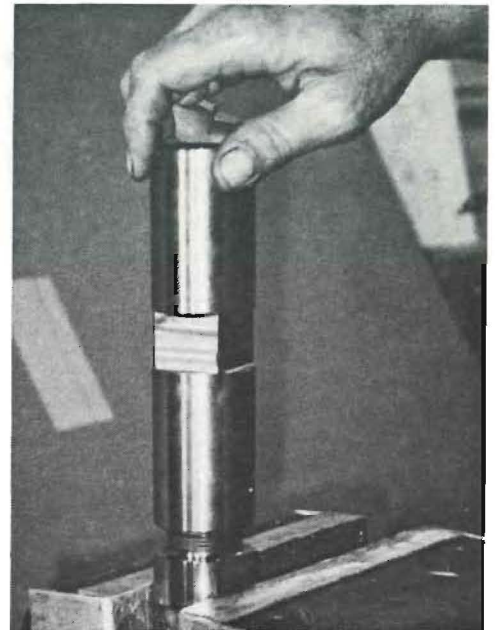

FIGURE 1
- D. REMOVE THE BODY (ITEM 1) AS SHOWN IN FIGURE 1.